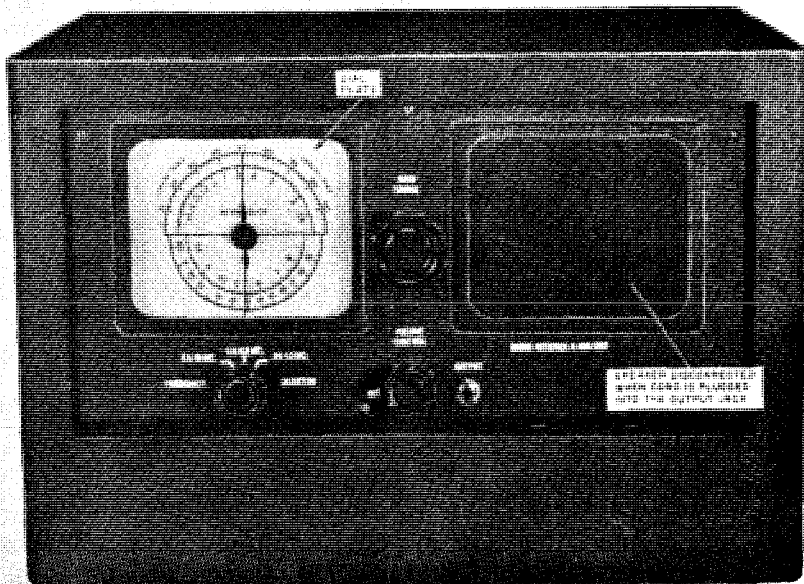

Figure 19. Radio Receiver R-100/VRR.
- b. Insert Plug PL-55 at one end of the cord into the jack on the radio marked OUTPUT (fig. 19).
To use the radio (fig. 19) with the PA set, turn the radio on by turning the VOLUME CONTROL to the right until a click is heard. Turn the VOLUME CONTROL to the right to the approximate setting. While the tubes in the radio are warming up, proceed as follows :